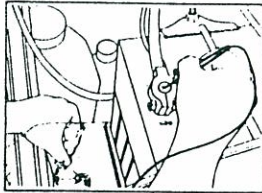

Fig. 3
4. Connect test leads to the device or circuit being measured. (Fig. 3)